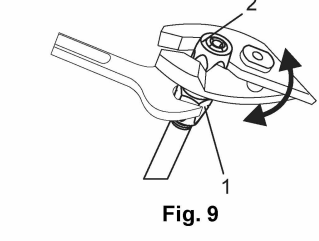

Fig. 9
1. Place a 15 mm wrench on the fixed coupler nut (1) and pliers or the another 15 mm wrench on the coupler adjusting nut (2) (Fig. 9).